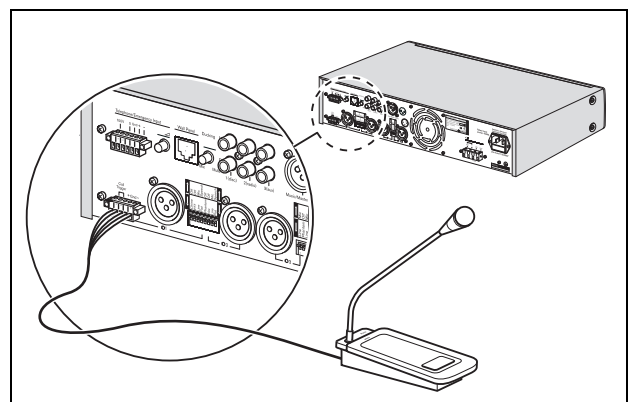

figure 4.3: Euro connector with trigger
- Euro connector with trigger. See figure 4.3.